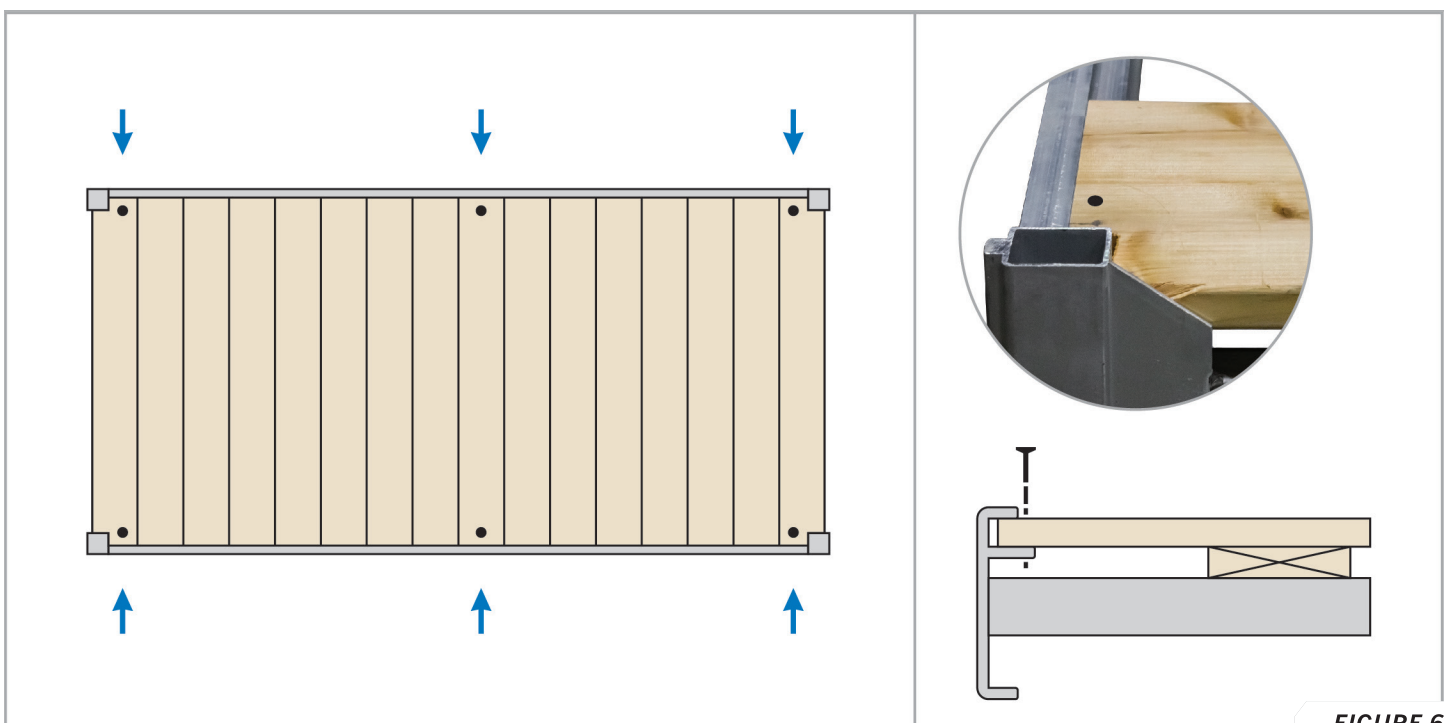

FIGURE 6
14. Drill 6 pilot holes through decking and frame. One in each corner and one in each long side near the center brace. **FIGURE 6**